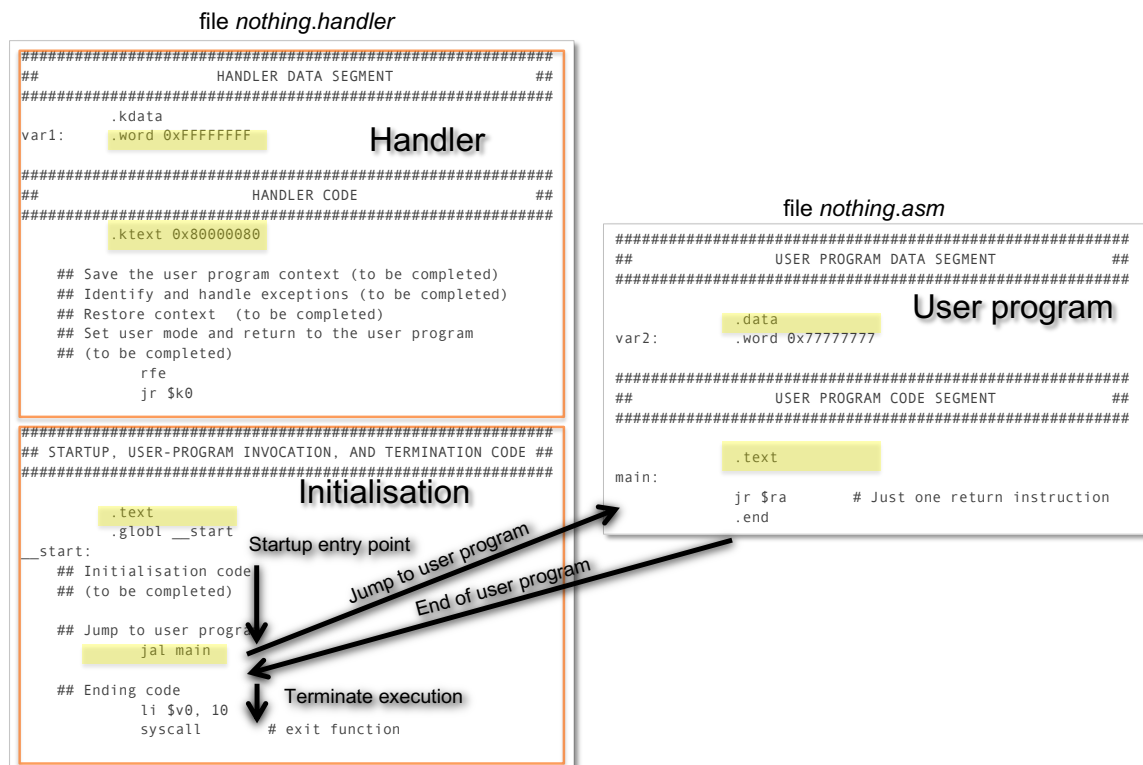

Figure 3. Execution flow of the whole system
► Observe Figure 3 and open the files *nothing.handler* and *nothing.asm* in a text editor for your reference. Check the following aspects: